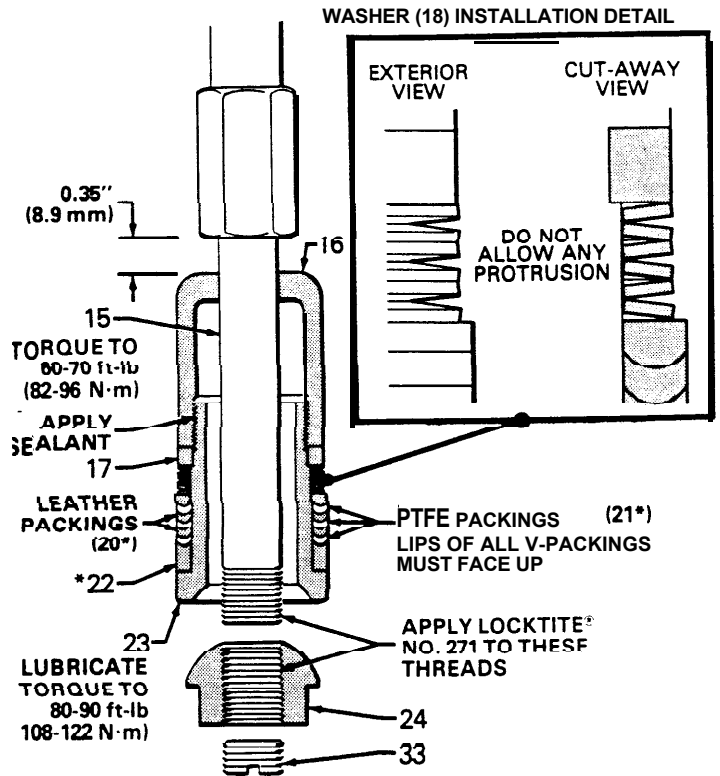

Fig 2
3. Remove the piston assembly from the cylinder. Hold the flats of the piston rod (15) with a wrench and unscrew the piston valve (24). Refer to Fig 2. Sealant on the threads of the piston valve will make this hard to remove.
5. Unscrew the piston stud (23) from the piston housing (16), and remove the packings and glands, but leave the spring washers (18) on the piston. Refer to Fig 2.
10. Lubricate the outer surface of the piston stud (23) and the new packings and glands. When installing the packings, *be sure the lips of the v-packings face on the stud.* One at a time, install the female gland (22*), alternately install the PTFE packings (21*) and the leather packings (20*), and then install the male gland (19*). See Fig 2.
11. Notice when looking at the washer (18*) from the side, that one side bows out. Place this bowed-out side against the male gland (19*). Install the next washer so the bowed-out side faces away from the first washer. Alternate the direction of each washer until all six are installed. See the detail in Fig 2. Install the packing retainer (17*) on the washers (18).
12. Apply thread locking compound, such as Loctite® No. 271 (red), to the piston stud (23) threads. Hold the retainer (17) down to keep the washers (18) from sliding up on the threads. Now screw the piston housing (16) onto the stud and torque to 80-90 ft-lb (108-122 N·m).
15. Slide the piston assembly (A) onto the piston rod (15). Apply thread locking compound to the piston rod threads and to the inner threads of the piston valve (24). Install the piston valve and tighten until there is a 0.35 in. (8.9 mm) clearance between the top of the piston housing (16) and the bottom of the piston rod hex. See Fig 2. Now snug the plug (33) in the bottom of the piston valve (24) which may have been loosened during repair; apply thread locking compound to the plug if it was completely removed. Place the flats of the piston valve in a vise and torque the piston rod to 60-70 h-lb (82-96 N·m).